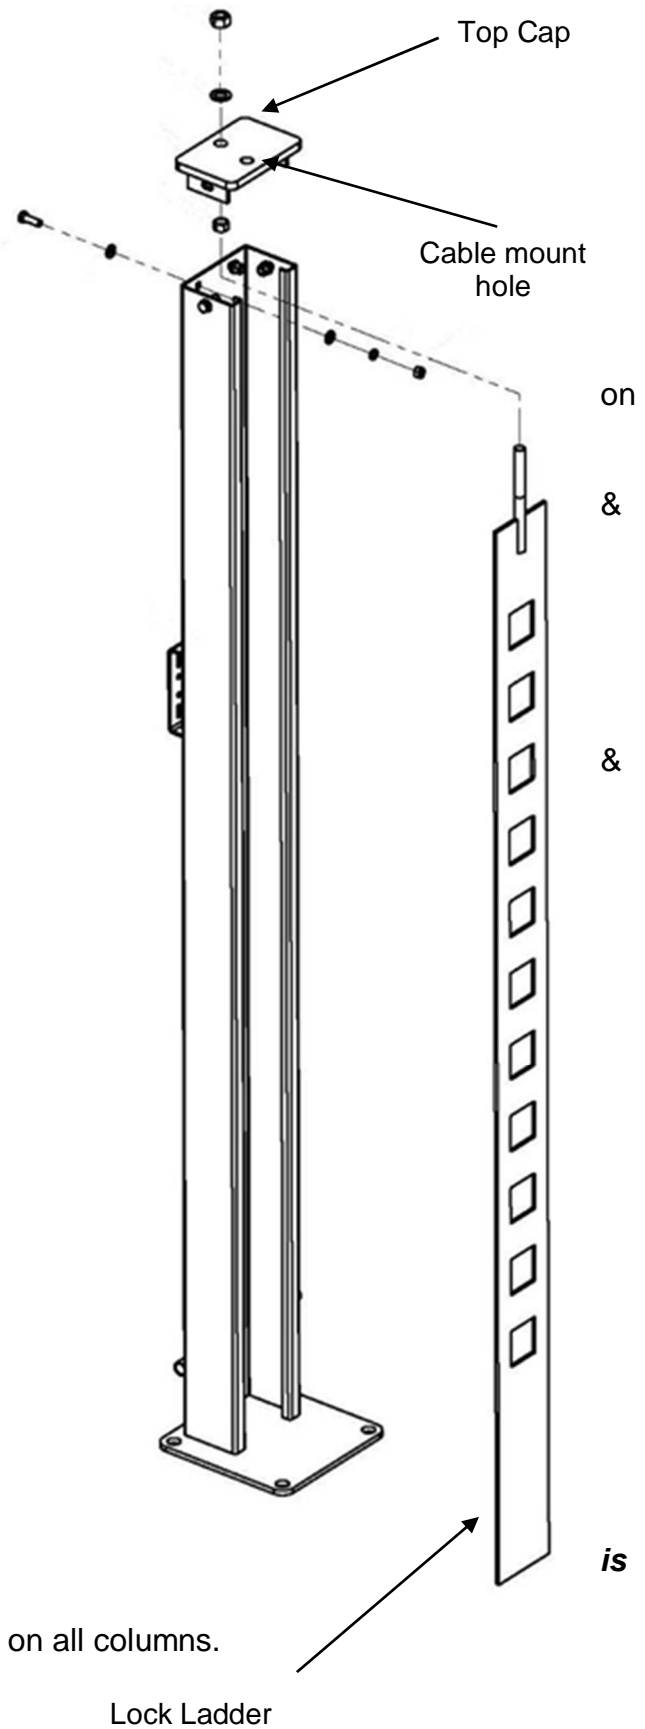

Fig. 5
11. Unpack the Lock Ladders (#11) (Fig. 5) from the package and slide them into the precut slot the Rub Blocks (#67) inside each column. After removing the top Nut from the Lock Ladder, you are ready to install the Top Caps A&B (#10 #65) on the columns.
12. Be aware of the offset hole in columns. Top Caps. Arrange Top Caps so that the cable mounting holes are closest to the runways. Use provided Bolts, Nuts, Washers and Lock Washers to install Top Caps, as shown in Fig.5 5b.